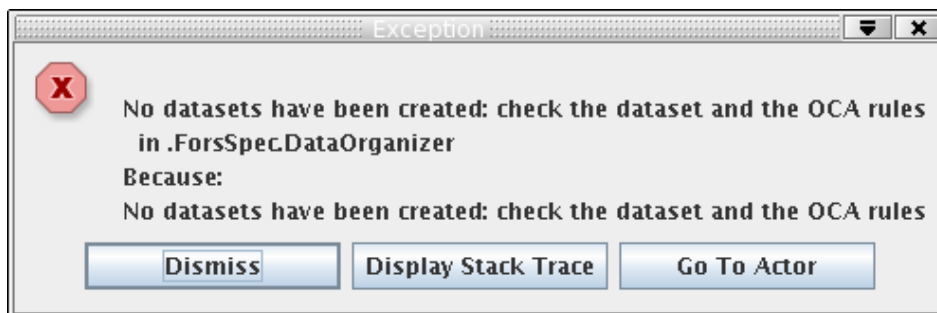

Figure 12.1: *TheDataOrganizer* interactive window reports an error “:No DataSets have been created, check the data set and the OCA rules.”.
1. **I downloaded the data from the ESO archive, put them into a new directory, tried to run `Reflex` on them, but the `DataOrganiser` fails with the error message “:No DataSets have been created, check the data set and the OCA rules.”(see Figure 12.1.)**